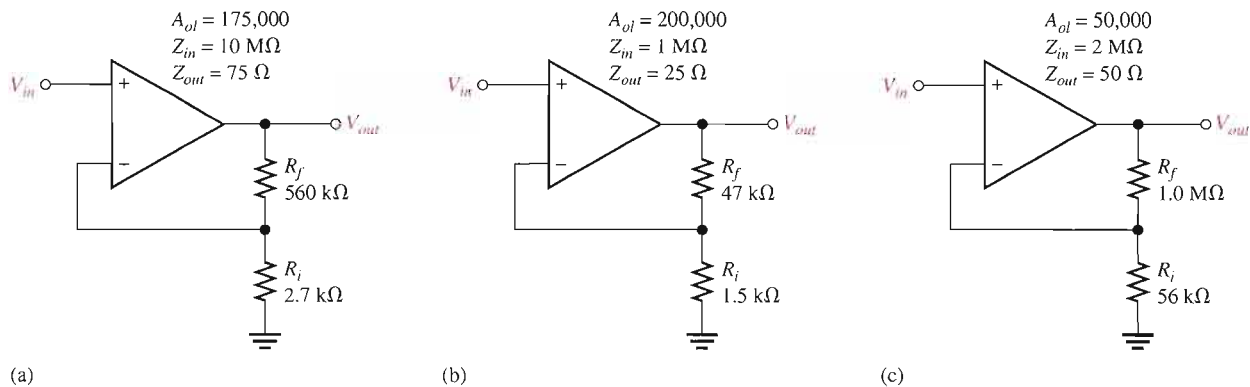

FIGURE 12-59
18. Determine the approximate values for each of the following quantities in Figure 12-59.